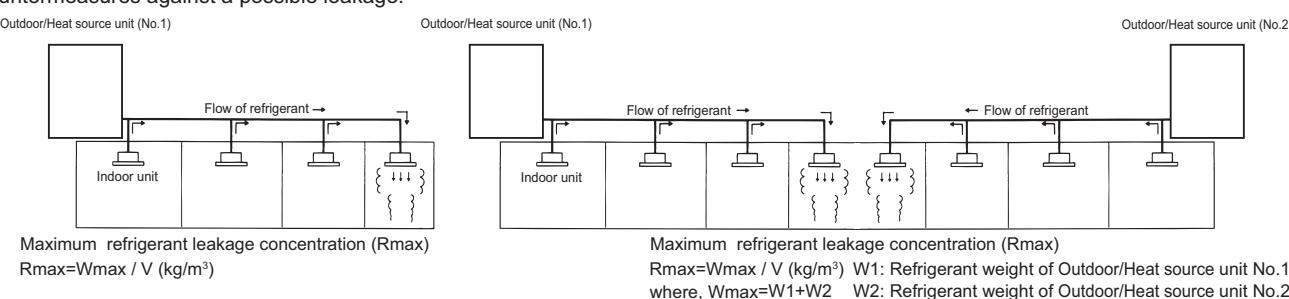

Fig. 1-1 The maximum refrigerant leakage concentration
The maximum refrigerant leakage concentration (R_{max}) is defined as the result of the possible maximum refrigerant weight (W_{max}) leaked into a room divided by its room capacity (V). It is referable to Fig.1-1. The refrigerant of Outdoor/Heat source unit here includes its original charge and additional charge at the site.